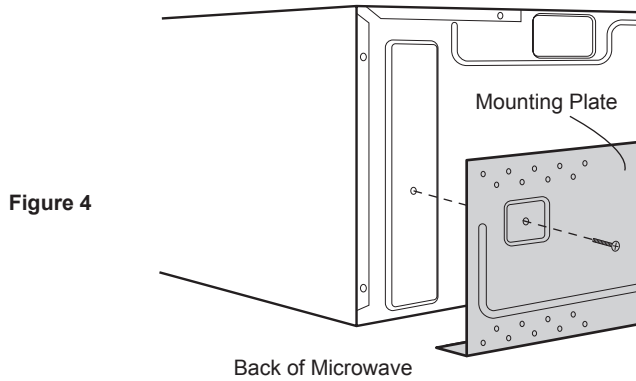

Figure 4
3. Attach the two Bottom Plate Screws saved from section PREPARATION OF THE OVEN, Figure 4. Install the two GREASE FILTERS. See figure 20.